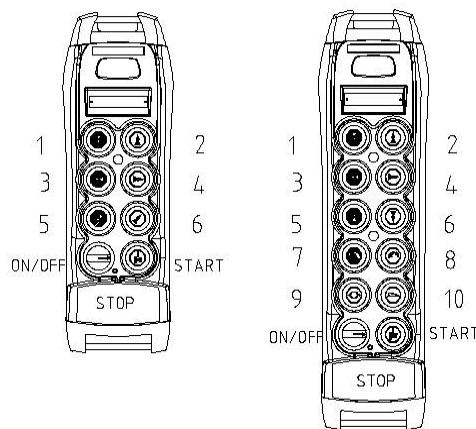

Figure 11: TX Pushbutton/Switch Numbers/Names
5. To copy the EP70 Memory Module contents into the internal memory of the transmitter, press transmitter Pushbutton 6 (see Figure 11) followed by START; keep both buttons simultaneously pressed for five (5) seconds. The LED will blink orange during the copying process. (In the LCD display models, the word 'Reading...' will display.)
7. Insert the original transmitter EP70 module into the transmitter socket. Press transmitter pushbutton 6 (see Figure 11). The LED will flash orange indicating the resident EP70 Memory Module is being written to with the stored receiver parameters. (In the LCD display models, the word Writing... will display.)